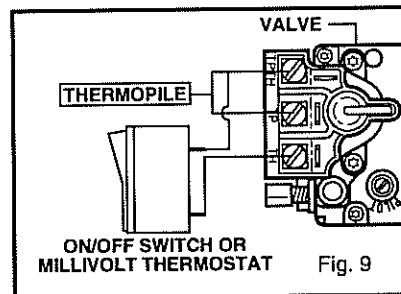

Fig. 9
3. Connect wiring to gas valve. (Fig. 9)